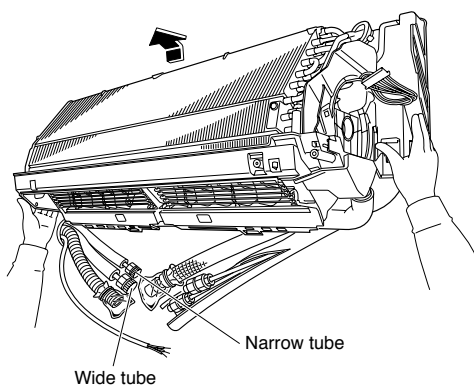

Fig. 38
- (1) Remove the indoor unit from the installation plate. (Fig.38)